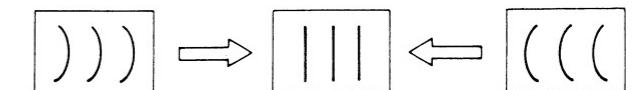

Fig. 29-6
4. Adjust H. CENTER LINE by turning DA board RV25 as shown in Fig. 29-6.